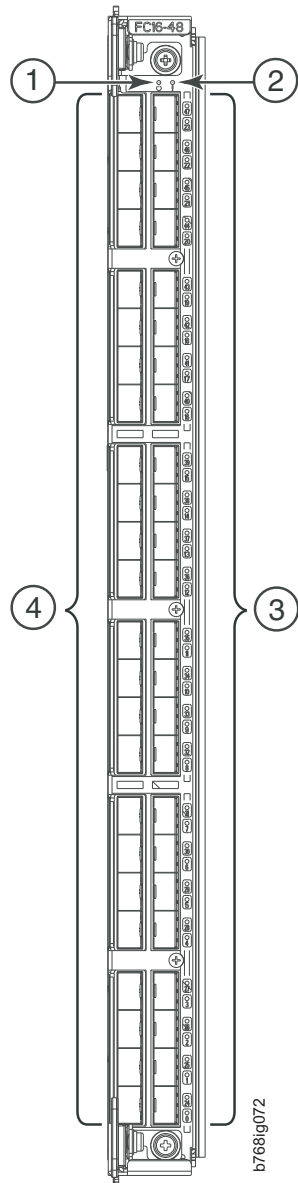

Figure 57. FC16-48 port blade
- Figure 57 on page 187 shows an FC16-48 port blade